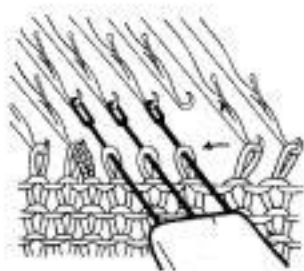

Fig. 46-2
- (b) Using the treble eye Transfer Tool, move all the stitches over until the end needle is empty. (Fig. 46-2)